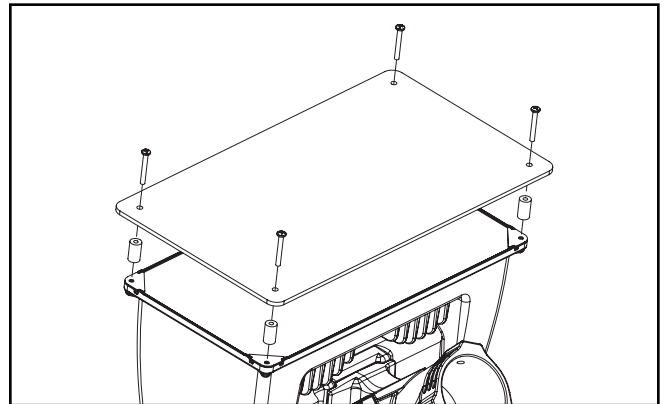

Figure 6.
Vandal Shield (Figure 6.)
1. Loosen and remove the existing (4) 10-24 Philips head screws on the face of the fixture.
2. Align (4) 7/8" spacers with existing holes.
3. Use (4) 10-24 x 1-1/2" screws to secure vandal shield on top of fixture. See Figure 6.